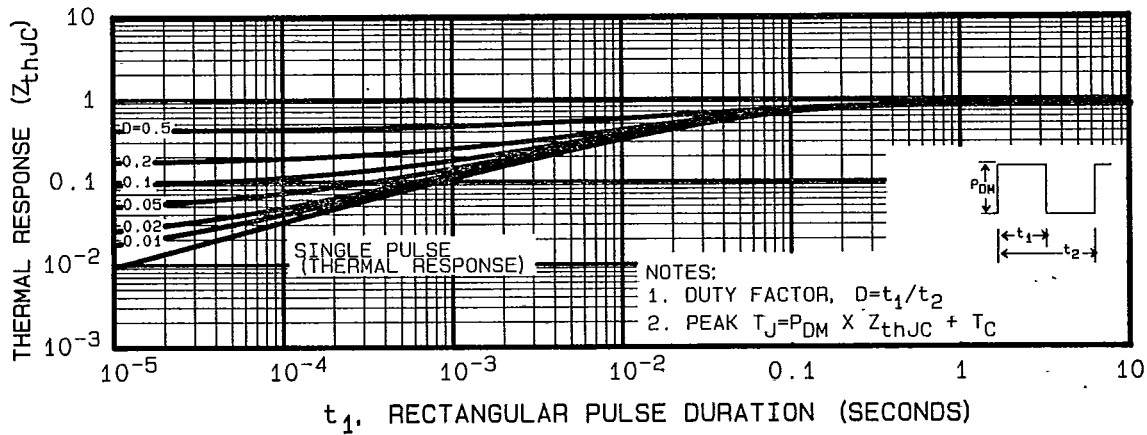

Fig. 5 — Maximum Effective Transient Thermal Impedance, Junction-to-Case Vs. Pulse Duration
- ① Repetitive Rating; Pulse width limited by maximum junction temperature (see figure 5)
- ② @ $V_{DD} = -25\text{V}$, Starting $T_J = 25^\circ\text{C}$, $L = 5.1\text{ mH}$, $R_G = 25\Omega$, Peak $I_L = -9.9\text{A}$
- ③ $I_{SD} \leq -9.9\text{A}$, $di/dt \leq -120\text{ A}/\mu\text{s}$, $V_{DD} \leq 40\text{V}$, $T_J \leq 150^\circ\text{C}$, Suggested $R_G = 18\Omega$
- ④ Pulse width $\leq 300\ \mu\text{s}$; Duty Cycle $\leq 2\%$
- ⑤ $K/W = \text{ }^\circ\text{C}/\text{W}$